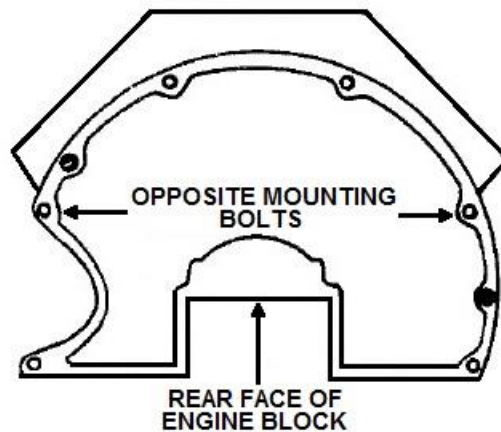

Figure 1
4. Install bellhousing onto block, using two (2) mounting bolts placed opposite one another. See **Figure 1**.